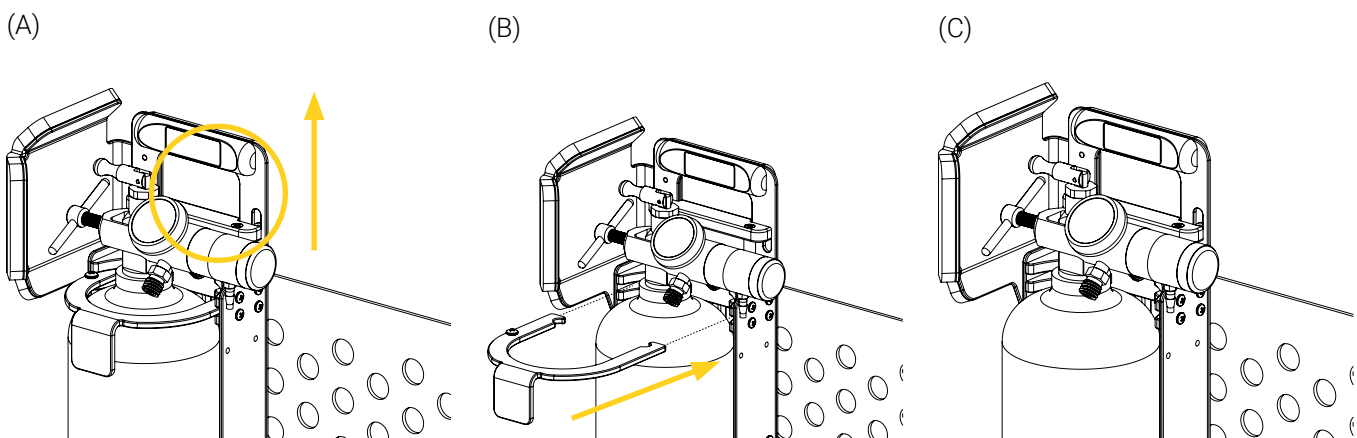

Figure 10: Removing the u-clamp
3. Pull and hold the quick release pull handle to deactivate the locking mechanism (Figure 10 A), pull out the u-clamp (Figure 10 B), then let go of the quick release pull handle (Figure 10 C).